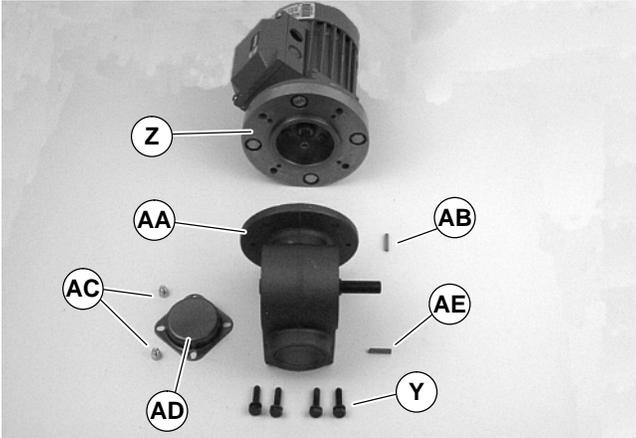

Figure 16
- Remove four screws (Y of Figure 16). Detach motor (Z) from gear reducer (AA). Retain motor output shaft key (AB).
- With key (AB of Figure 16) in keyway, slide motor (Z) and gear reducer (AA) together. Install screws (Y) and tighten.